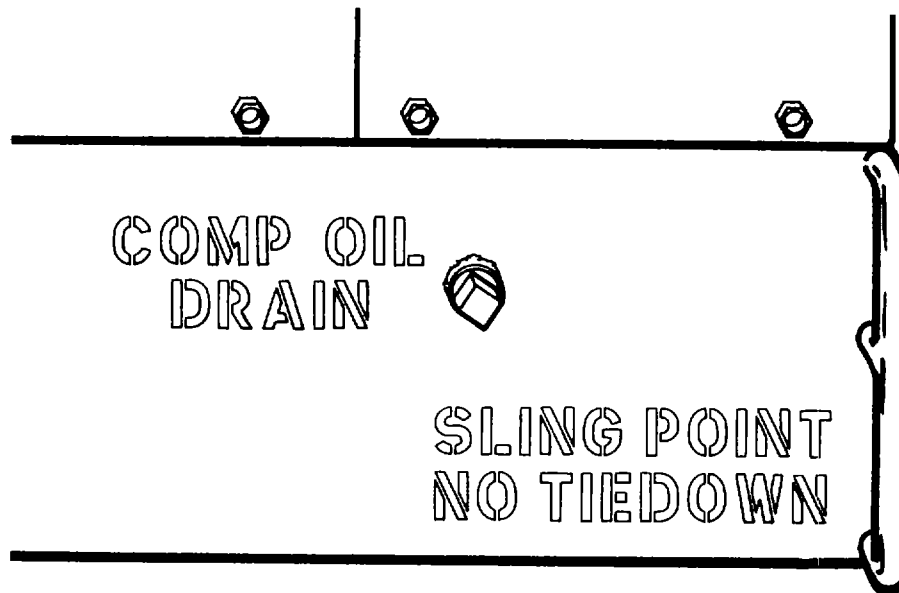

Figure 6-38. Compressor Oil Drain
- (1) Drain compressor oil. (Figure 6-38)